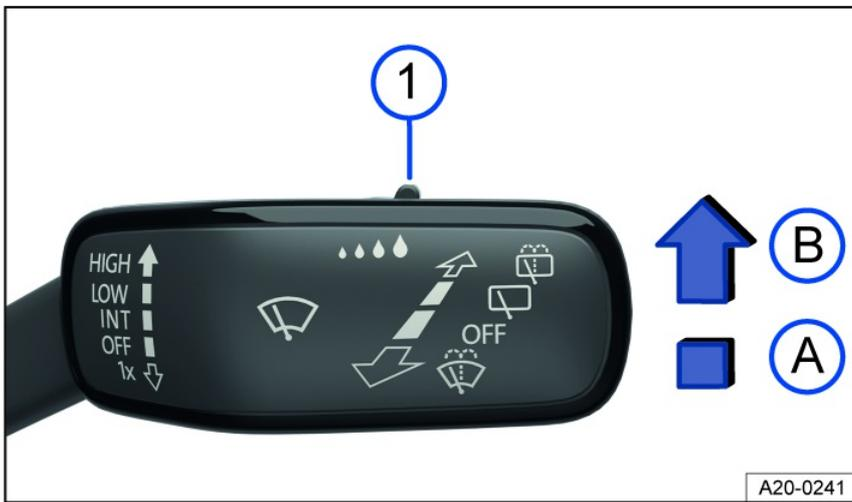

Fig. 99 On the right side of the steering column: windshield wiper lever.
1. Press the lever into the desired position fig. 99.
The sensitivity of the rain/light sensor can be manually adjusted with the switch in the windshield wiper lever fig. 99, ⇒ .